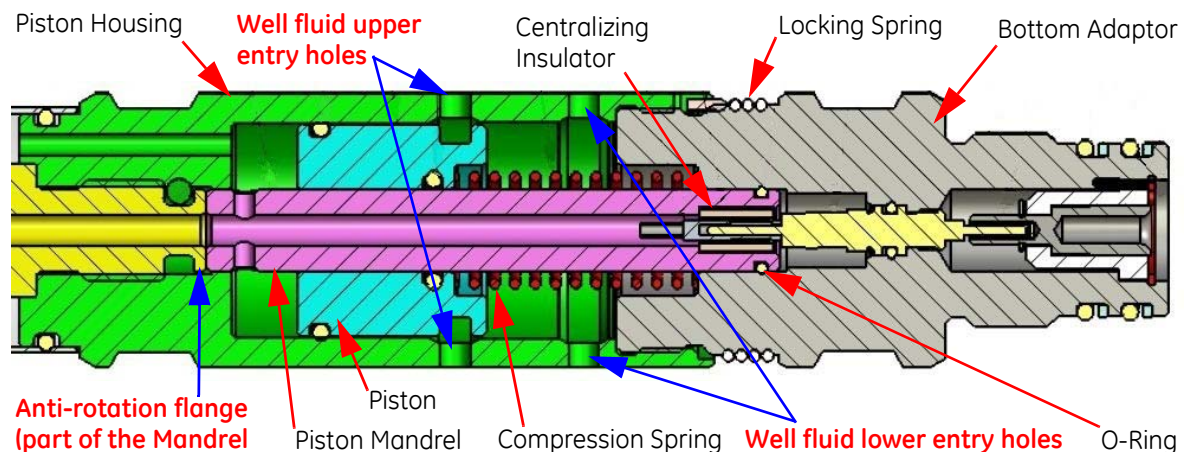
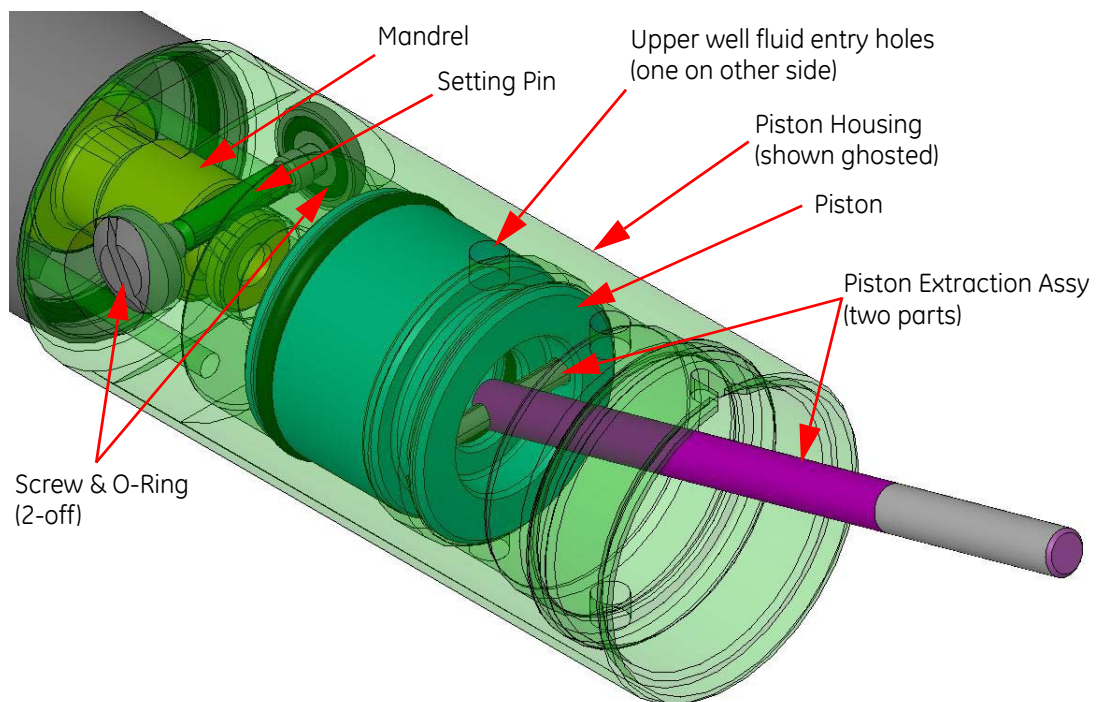

Figure 5-7 Identification of components in the assembly of the Piston Housing and the Bottom Adaptor
Figure 5-8 Piston Extraction Assembly installed in the Piston
- 1 **BEFORE** the Bottom Adaptor (item 10) is removed from the Piston Housing (item 12), complete **one** of these steps:
- With reference to Figure 5-7, make sure the Piston (item 4) is aligned with the two upper well fluid holes and insert the two Piston Setting Pins (item 3, KIT014-NT0009) in the two upper well fluid holes. Use the O-Ring (item 4, KIT014-NT0009) to retain the two Piston Setting Pins.
- Make sure the internal pressure of the Sensor Section Assembly (item 1, 416026) has been released. Refer to Step 1 of Appendix D.1, How to Oil Fill.
- 2 Make sure the lower Thread Protector (item 4, 416026) has been removed.
- 3 Lift the tang of the Locking Spring (item 14) from the slot in the Piston Housing (item 4). Make sure the tang remains out of the slot.
- 5 Remove and retain the Compression Spring (item 17).
- Where the Piston Mandrel (*item 3*) is removed when the Bottom Adaptor is removed, remove it from the Bottom Adaptor. Remove and discard the O-Ring (*item 27*) from the Piston Mandrel.
- Where the Piston Mandrel (*item 3*) is **not** removed when the Bottom Adaptor is removed, remove it from the Piston (*item 4*). Remove and discard the O-Ring (*item 27*) from the Piston Mandrel.
- 7 Remove and discard the two O-Rings (*item 28*) and remove and retain the two Backup Rings (*item 6*) from the lower end of the Bottom Adaptor.
- 8 When necessary, install the Piston Extraction Assembly (*item 1, KIT T014-NTO009*) in the end of the Piston (*item 4*). See *Figure 5-8*.
Note: With reference to *Figure 5-7* and to *Figure 5-8*, the two upper well fluid upper entry holes are used also for the Piston Setting Pins (*item 3, KIT T014-NTO009*).
- Use the Piston Extraction Assembly (item 1, KITTO14-NTO009) to locate correctly the Piston (item 4) in the Piston Housing (item 12). See Figure 5-8. Use the two Piston Setting Pins (item 3, KITTO14-NTO009) and the O-Ring (item 4, KITTO14-NTO009) to retain the Piston in the correct position.